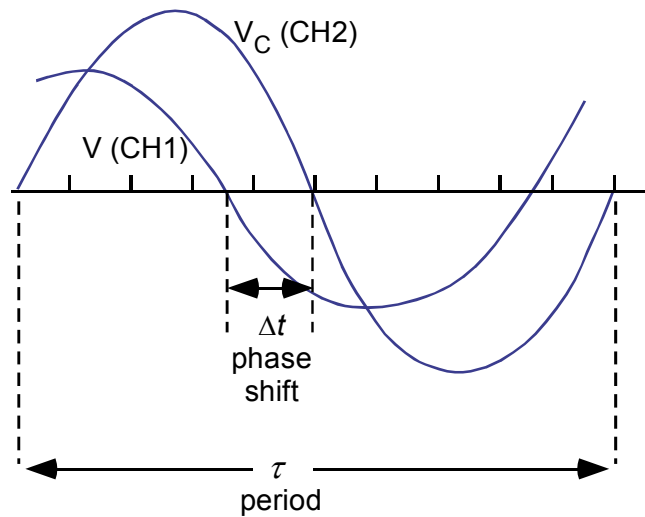

Figure 11-11. Determination of the phase shift ϕ for Eq. (11.25).
We will also use this circuit to learn how to measure the phase angle between two sine waves of the same frequency. The method is called the sine wave displacement method. The reference sine wave (function generator output) is used to trigger the oscilloscope so that exactly one cycle of the wave fills the screen. The signal sine wave is then viewed and its displacement Δt along the horizontal axis (as illustrated in Figure 11-11) gives the phase shift according to
- (c) *To find the phase*, determine the time Δt as shown in Figure 11-11, and calculate the corresponding angle ϕ .